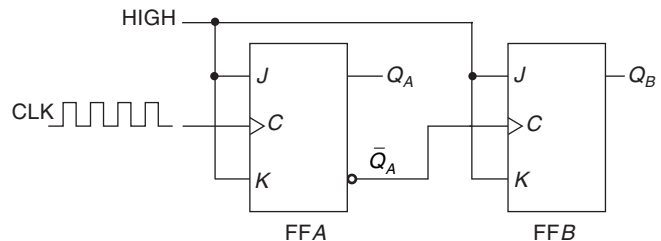
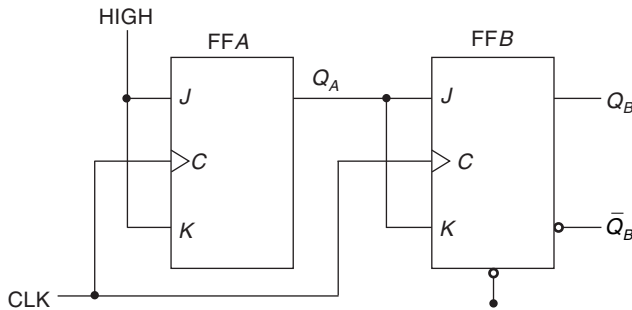

Fig. 13.22 A 2-bit Asynchronous Binary Counter.
Fig. 13.25 A 2-Bit Synchronous Binary Counter.
Figure 13.22 illustrates a 2-bit counter connected for *asynchronous operation*. The clock time CLK is connected to the clock input (C) of *only* the first stage, FFA. The second stage, FFB, is *triggered* by the Q_A output of FFA. FFA changes state at the *positive-going edge* of each clock pulse, but FFB changes *only* when triggered by a *positive-going transition* of the Q_A output of FFA. Because of the inherent propagation delay time through a flip-flop, a transition of the input clock pulse and a transition of the Q_A output FFA can never occur at exactly the same time. Therefore, *the two flip-flops are never simultaneously triggered, which results in asynchronous counter operation*.
Since it goes through a *binary sequence*, the counter in Fig. 13.22 is a *binary counter*. It actually counts the number of clock pulses up to three, and on the fourth pulse it *recycles* to its original state ($Q_A = 0$, $Q_B = 0$). The term *recycle* is commonly applied to counter operation; it refers to *the transition of the counter from its final state back to its original state*.
The term synchronous as applied to counter operation means that *the counter is clocked such that each flip-flop in the counter is triggered at the same time*. This is accomplished by connecting the clock line to each stage of the counter, as shown in Fig. 13.25 for a two-stage counter. An arrangement different from that for the asynchronous counter, Fig. 13.22 must be used for the *J* and *K* inputs of FFB in order to achieve a binary sequence.